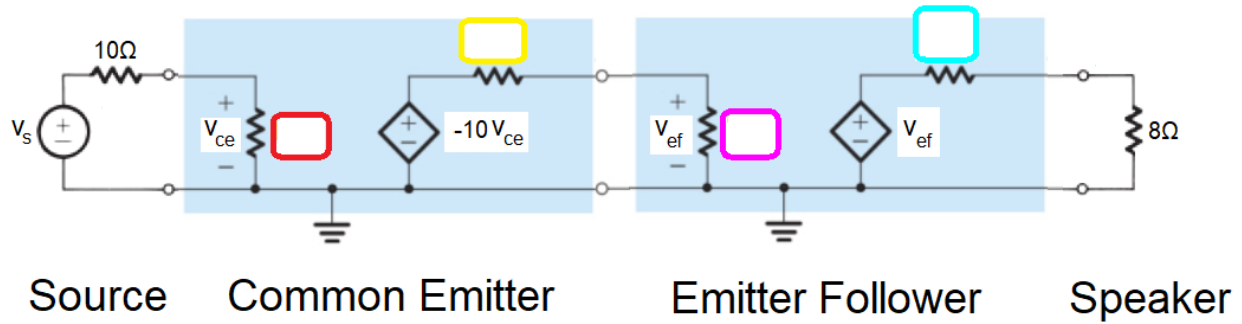

Figure 8: The Audio amplifier with an 8Ω load that represents a speaker.
1. Fill in the values of the resistors shown in Figure 8. Assume $\beta = 100$.